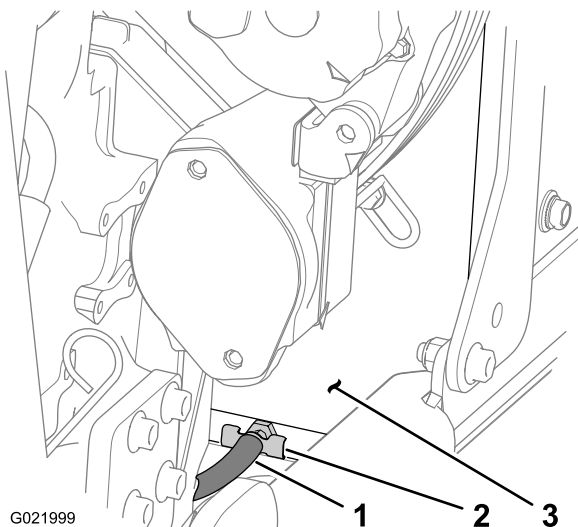

Figure 80
3. Place a drain pan with a minimum capacity of 20 L (5.3 gallons) under the open end of the drain hose (Figure 80).
5. Close the drain valve (Figure 80).
- F. Open the drain valve and drain the cleaning solution into a drain pan (Figure 80).
- E. Open the drain valve (Figure 80) and drain the water into a drain pan.